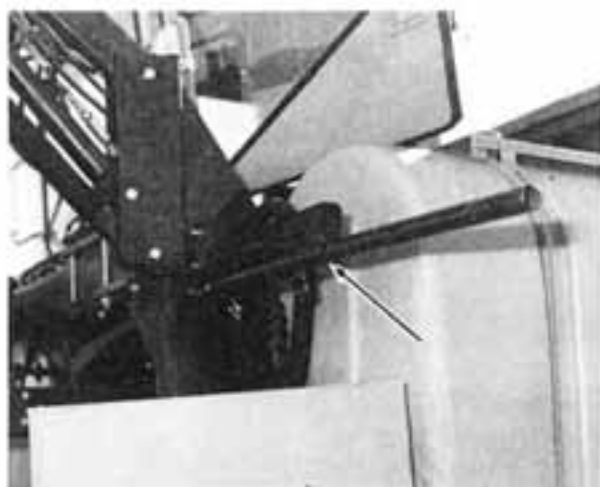

Figure 2
5. Attach leg adjusting brackets. See Figure 2.